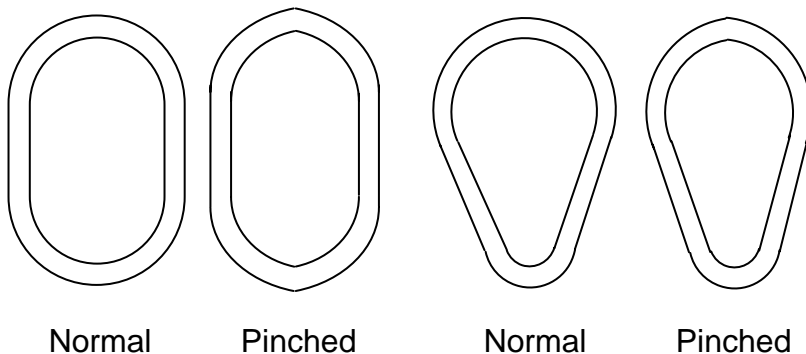

Figure 6. Normal and "pinched" link shapes. **If link is damaged then remove from service. See C. Refurbishment.**
- ii. Check link for deformations. The curved ends of the link (either oblong or pear) should be generally circular in shape. If overstressing has occurred, the end portions of the link will appear "pinched." Figure 6 shows the pinched affect of overstressed parts.